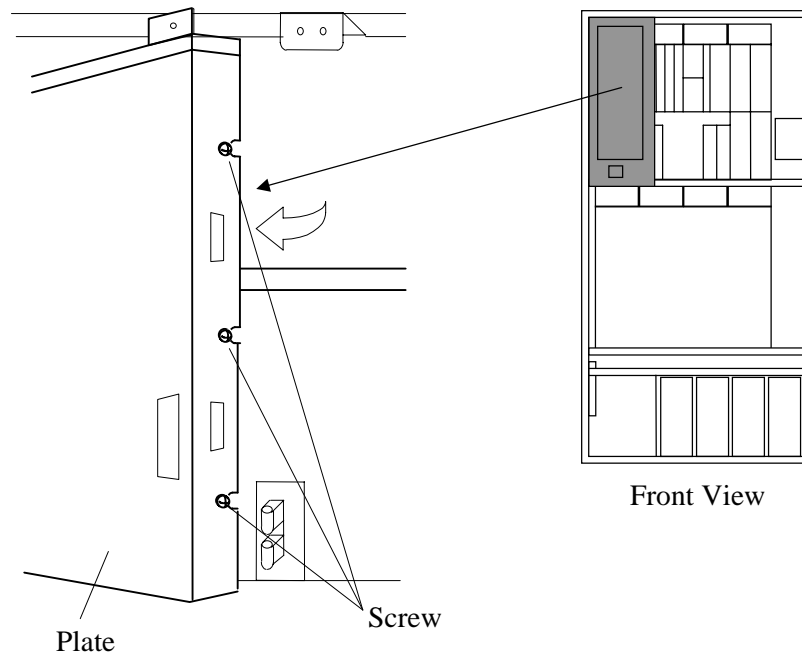

Fig. 3.11-3 Removal of Plate
- h. Attach the plate to the Movable rack and fasten the three screws. Refer to Fig. 3.11-3.